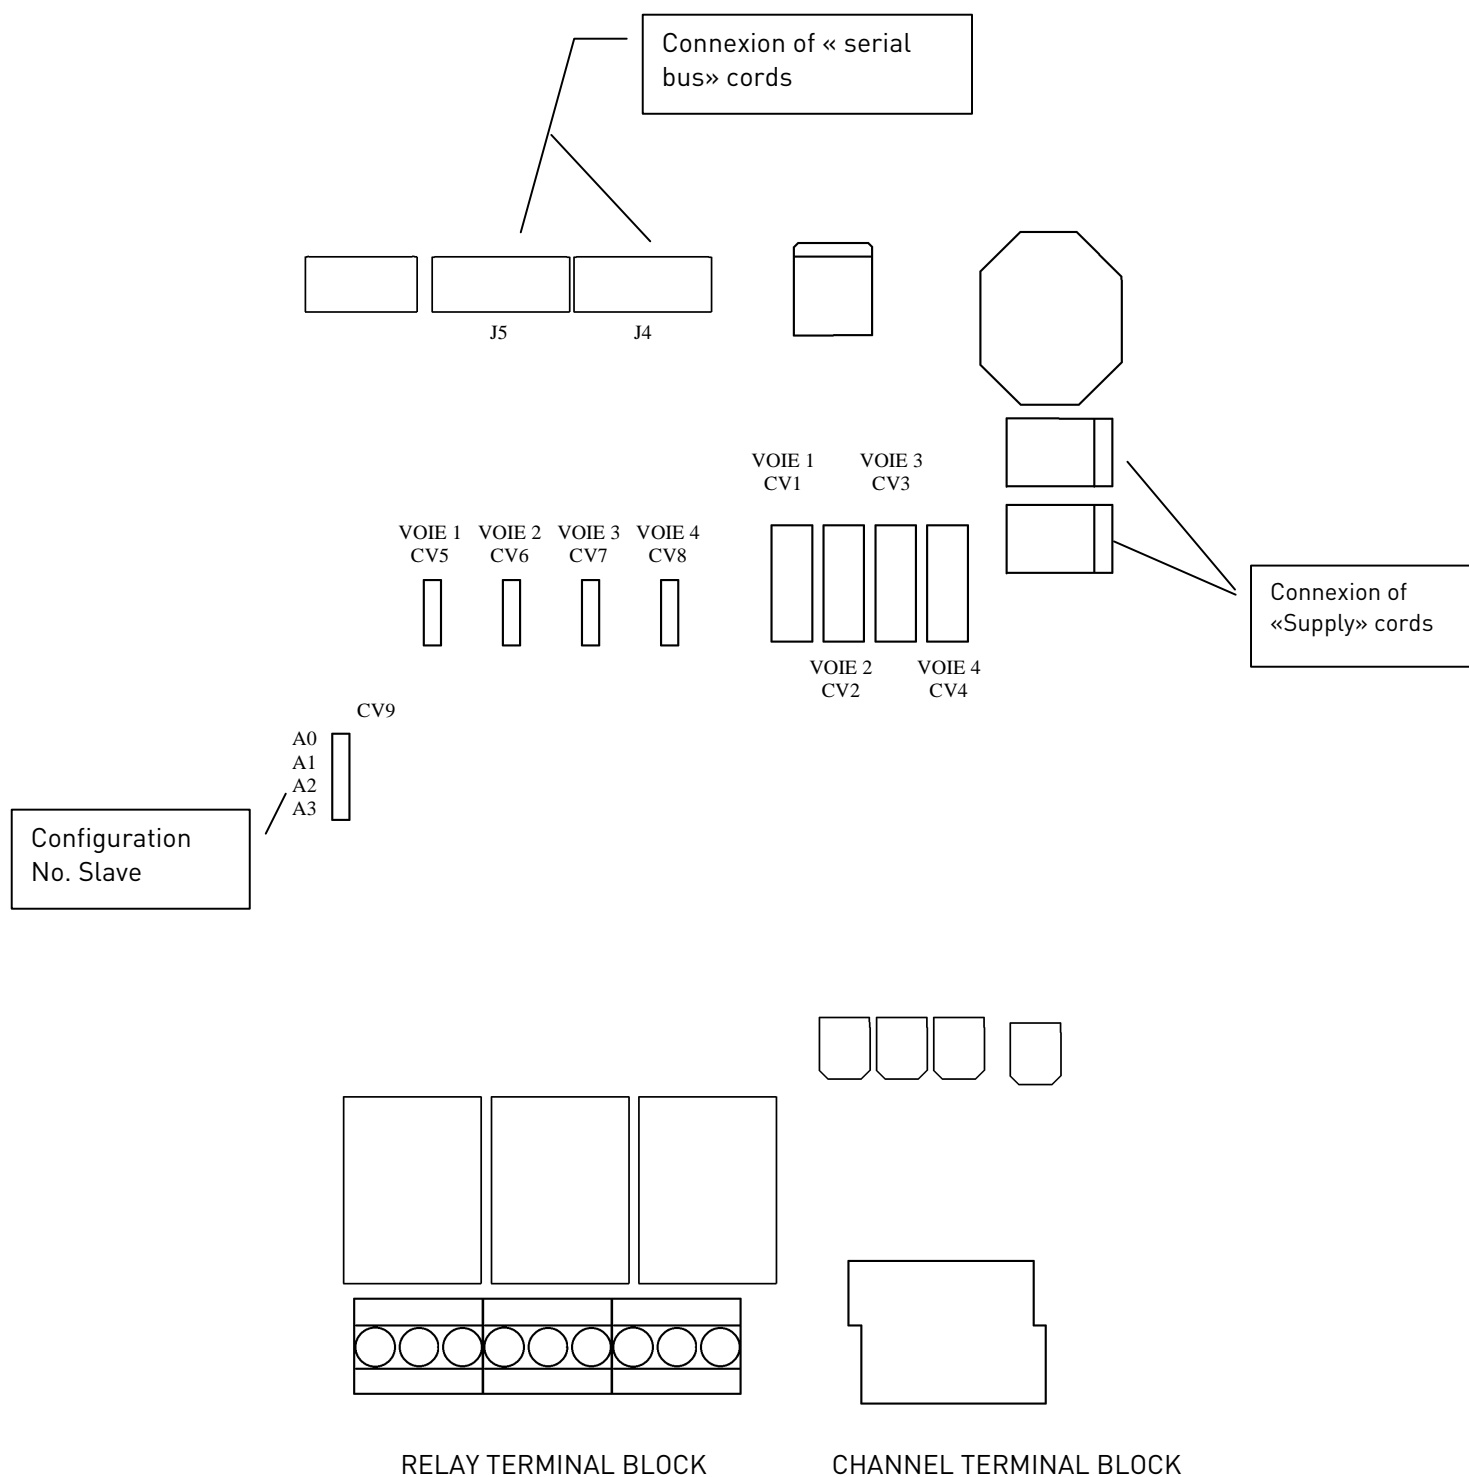

Figure 12: Configuration jumper position on the expansion module board
3. Tag the jumper position associated to the channel thanks to Figure 12 page 27,